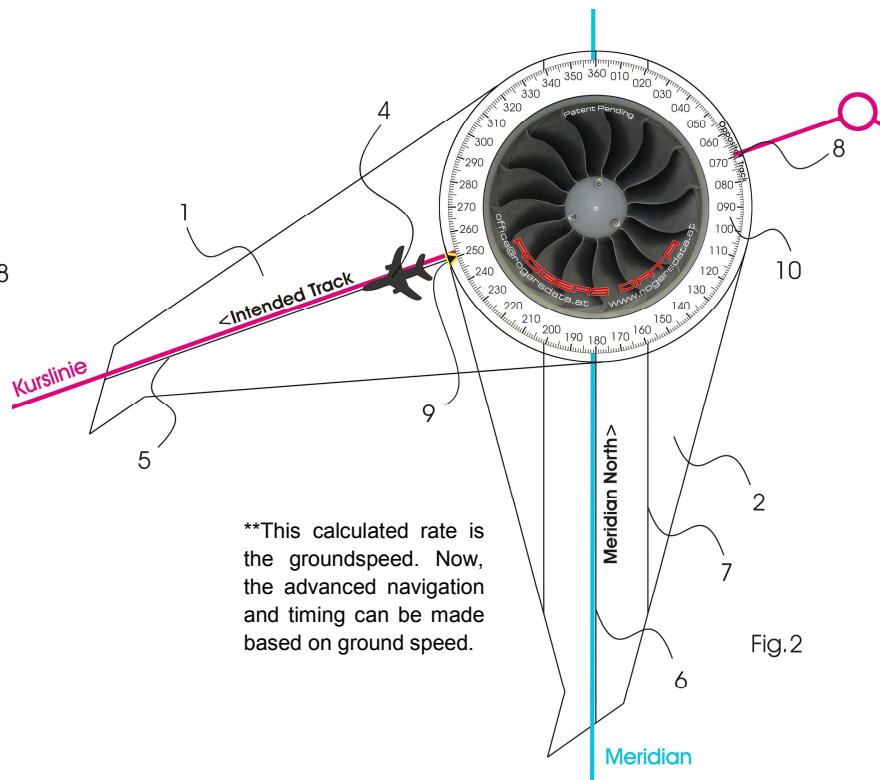

Fig. 2
To determine the heading use the RogersData© Navigationcircle with the back (Fig. 2) positioned on a sectional chart in such a way that the leg (1) with the aircraft symbol (4) comes to rest on the course line and the aircraft symbol and the line with the word "<Intended Track" shows in the desired direction of flight. The second leg (2) is to be rotated in such a way that the line (6) drawn through the entire middle of the Navigationcircle and the lines (7) are parallel to a meridian in the sectional chart and the word "Meridian North" defines true north. The heading is shown on the mark (9) readable exactly to one degree.
To determine a base line in respect to a bearing of a VOR use the back (Fig. 2) of the RogersData© Navigationcircle with the mark (9) set exactly to the degree on the compass rose (10). The Navigationcircle is to be set with the leg (2) positioned on the sectional chart so that the compass rose is oriented to magnetic north of the VOR, considering the variation in the location of the VOR, respectively. Furthermore, the Navigationcircle is to be positioned so that the center line (5) of the leg (1) with the aircraft symbol aims beyond the radio navigation aid in the direction of the base line. Is a DME distance also known, the position on the base line can be determined. Set the distance in such a way that the mark (16) meets the distance on the scale (15) NM (nautical miles). Now, the accurate position along the base line can be set by means of the tips (19). If the bearings of two radio navigation aids are known, the position above the intersection of the two base lines can be determined – regarding VORs taking into account the variation of the location of a VOR; regarding NDBs taking into account the variation of the estimated position of the aircraft.